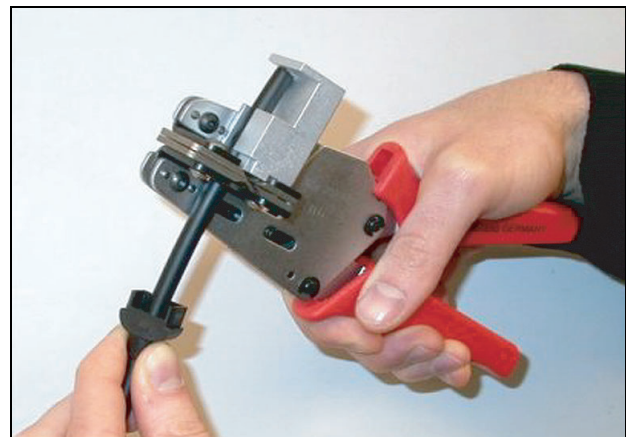

figure 45.7: Stripping the cable
- 5 Push the cable through the stripping tool (tool 5) to the mechanical stop (refer to figure 45.7).